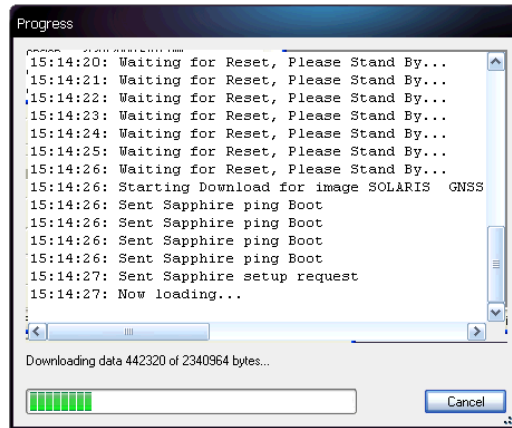

Figure 29: Progress Dialog Box
64. Click . An upload progress window opens (see Figure 29).